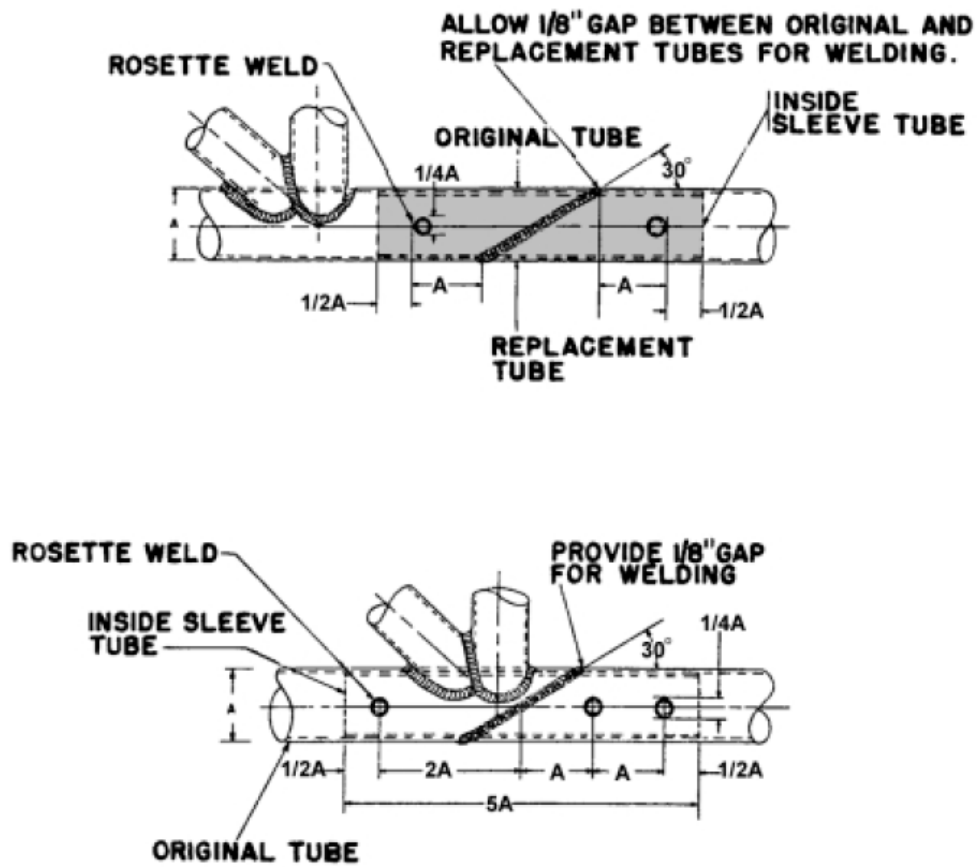

Figure 4: Method of inner sleeve splicing, recommended for tubing crack repair
- Repair any cracks found. Refer to Chapter 51-70-05 "Structural Repair of Steel Components" of the Service Manual and figure 4.